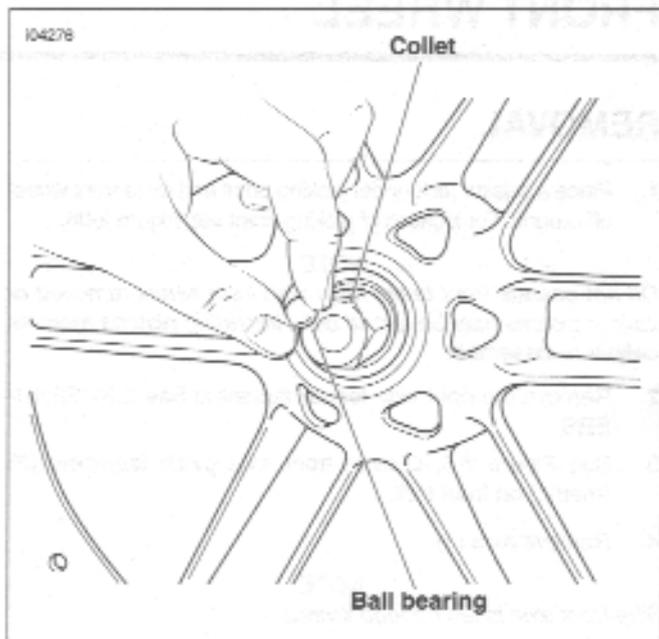

Figure 2-8. Install Collet and Ball Bearing
3. Assemble the short forcing screw (1), nut (2), Nice bearing (3), washer (4) and bridge (5) from the Wheel Bearing Installer/Remover (HD-44060).
4. See Figure 2-8. Insert the Front Wheel Bearing Remover Collet (B-43993-7) into the wheel bearing until it fully seats against the bearing.